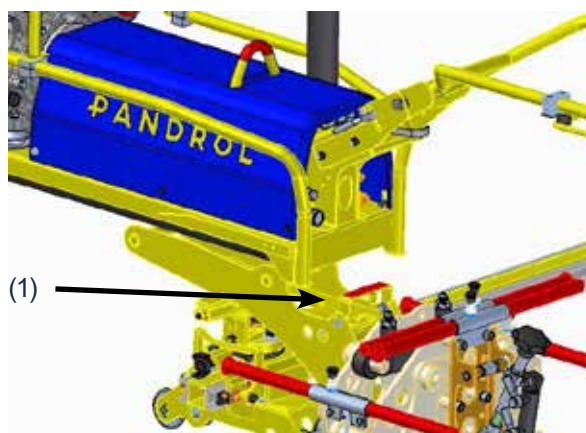

Fig 33. Locking hatch
3. Unlock the powerpack from the working tool by turning/pulling the hatch (Pos. 1, Fig 33) and then slide the powepack backwards.